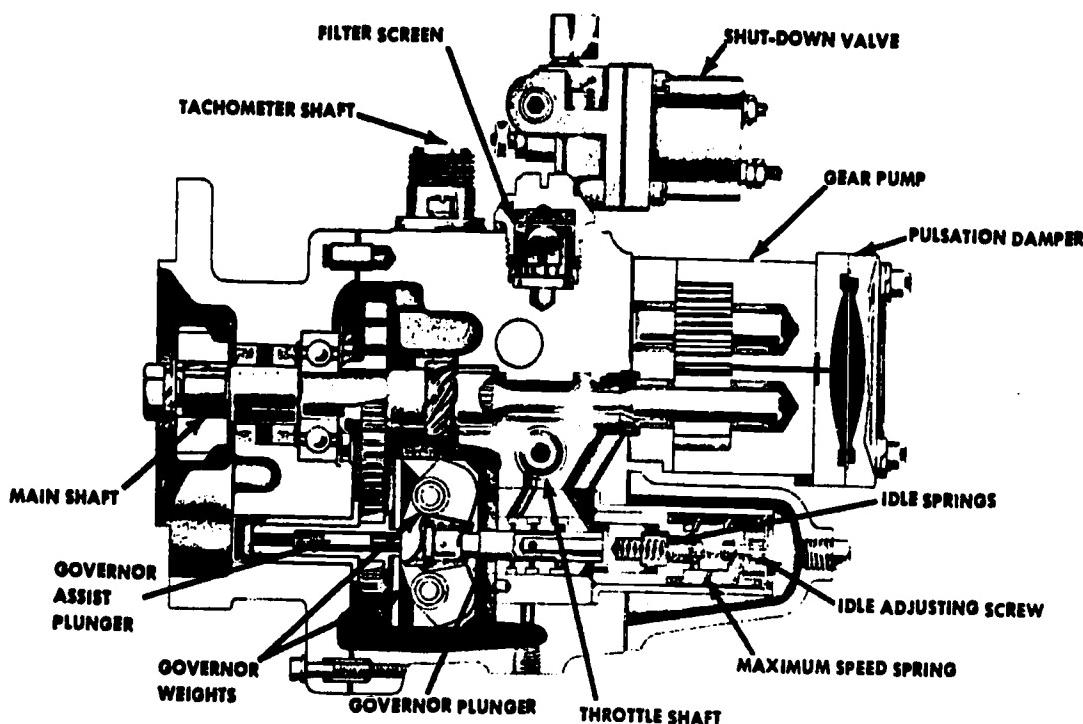
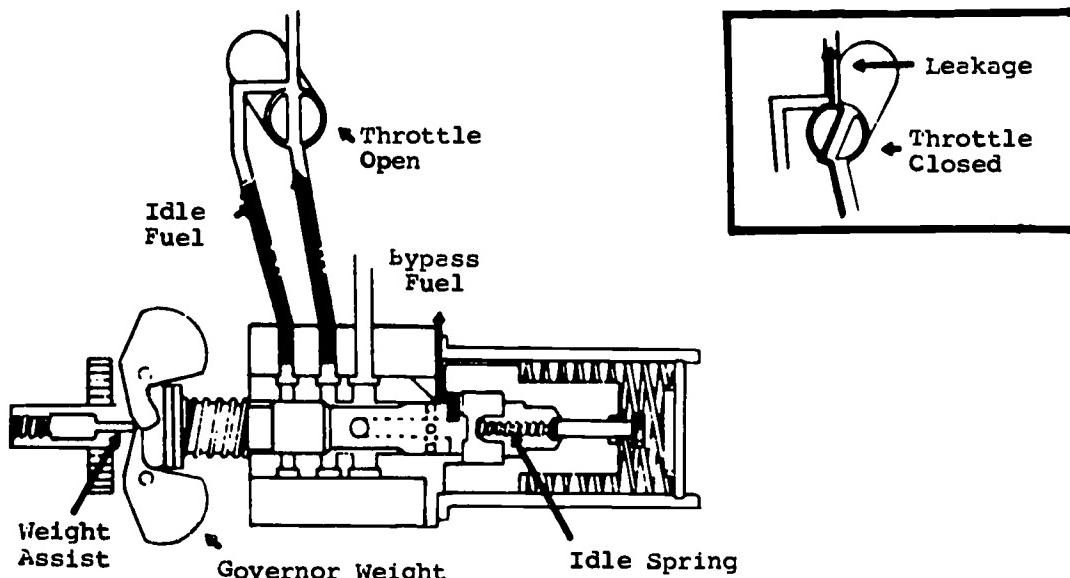

Fig 3-6. PTG fuel pump (cross section).
Fig 3-7. Governor (showing fuel flow).
The MB09 and M939 series vehicles use the Cummins NHC 250 engine. The naturally aspirated, six-cylinder, inline, liquid cooled engine utilizes the somewhat unique Cummins pressure time (PT) fuel system. This system is composed of a PTG-AFC (plugged) fuel pump (fig 3-6) mounted on the air compressor, fuel manifold, PT (type O) injector, and fuel return lines. Of course a fuel tank, supply lines, and filter are common to all internal combustion engines. The pressure time (PT) fuel system is derived by the fact that fuel metered into the cylinder depends on two things, the fuel pressure at the metering orifice (controlled by the fuel pump) and the time the orifice is open to receive fuel (controlled by the cam actuated injector plunger). The air fuel control (AFC) device incorporated in the pump is plugged when used on naturally aspirated engines such as the NHC 250.
Take a look at figure 3-7. Fuel enters the gear pump, moves through a screen to the governor, then through the throttle shaft, and lastly, through the shut-down valve to the injectors. Pulsations created by the gear pump are eliminated by a pulsation damper (refer to fig 3-6).
As noted previously, the PTG pump is a variable pressure pump. In this type pump, the fuel flow is controlled by the governor (fig 3-7) at idle and maximum speeds. If the operating speed is somewhere between low idle and high idle, fuel flow is regulated by the throttle which is controlled by the operator. At low idle, the governor maintains sufficient fuel pressure (flow) by the use of a plunger and spring which allow the idle port to open, allowing enough fuel to maintain engine idle speed. At maximum speed (RPM) the governor plunger shuts off fuel (limits fuel pressure) to the injectors thus limiting speed. A bypass port is incorporated in the governor housing which allows fuel to circulate through the pump for lubrication and cooling of the working parts.
You should note in figure 3-7 that the throttle shaft leakage allows fuel to pass from the governor around the throttle shaft to maintain low idle speed. For part load operation (between low idle and high idle) fuel flow is regulated by the throttle shaft. Thus the throttle controls fuel flow (pressure) between idle and maximum speeds.